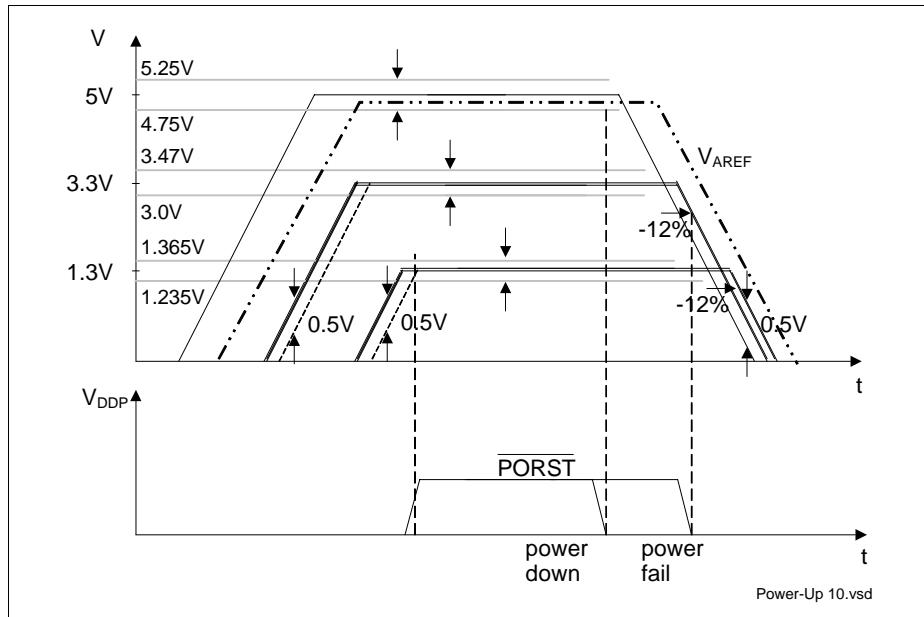

Figure 13 5 V / 3.3 V / 1.3 V Power-Up/Down Sequence
- At any moment in time to avoid increased latch-up risk, each power supply must be higher than any lower_power_supply - 0.5 V, or: $V_{DD5} > V_{DD3.3} - 0.5 \text{ V}; V_{DD5} > V_{DD1.3} - 0.5 \text{ V}; V_{DD3.3} > V_{DD1.3} - 0.5 \text{ V}$, see Figure 13.